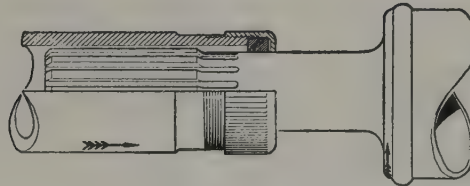

Fig. 7.3. Alignment arrows on sliding joint
- 5 Align the arrow on the propeller shaft with the arrow on the sliding yoke as shown in Fig.7.3, and fit the two parts together. Screw the knurled collar onto the sliding yoke and lubricate the splines by applying a grease gun to the grease nipple in the sliding yoke.